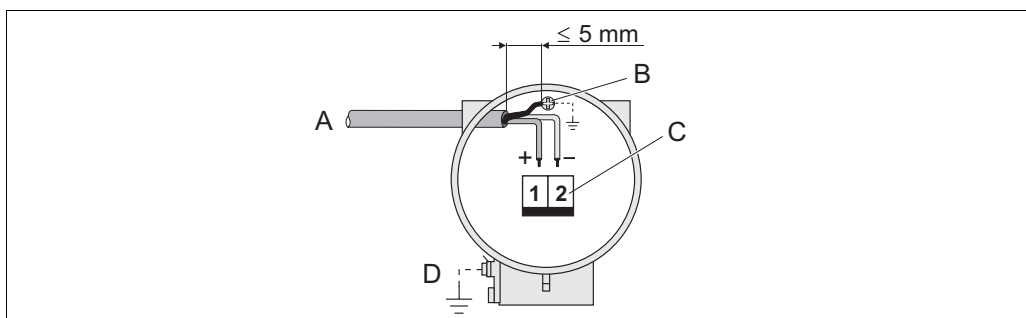

Fig. 1: Electrical connections Prowirl 72 PROFIBUS PA resp. Prowirl 73 PROFIBUS PA
- The flowmeter must be integrated into the potential equalisation system (see Fig. 1).